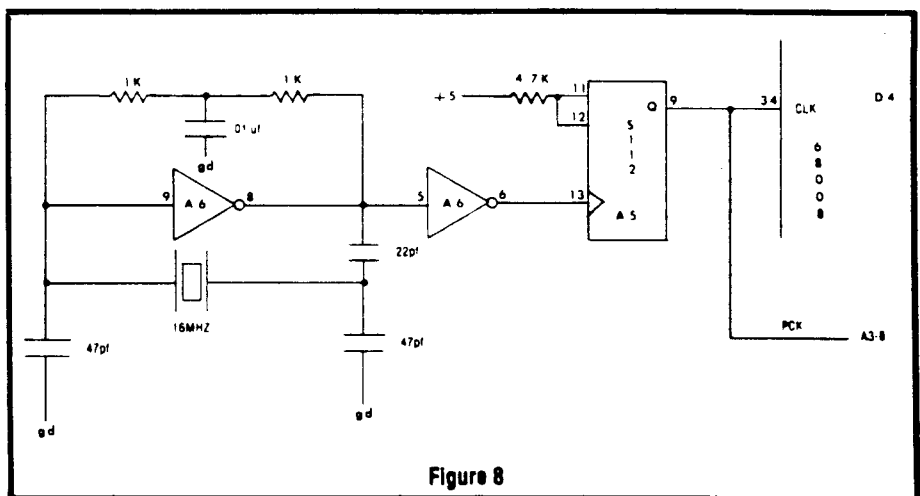

Figure 8
**Clock.** The clock circuit (see Figure 8) has appeared in the literature. The S112 was used to achieve sharp rise and fall times as well as a 50 percent duty cycle (see Reference 1 at the conclusion of this article).